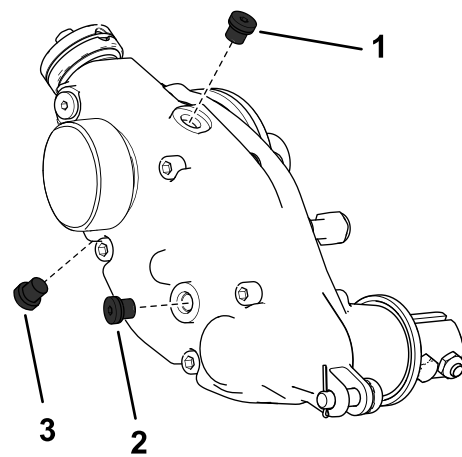

Figure 26
2. Remove the drain plug on the bottom of the housing (Figure 26).
3. Remove the fill plug on the side of the housing and loosen the air-vent plug on the top so air can pass through (Figure 26).